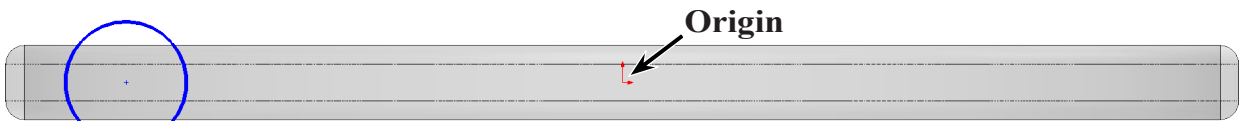

Fig. 4
- Step 2. Click **Circle**  (S) on the Sketch toolbar.
- Step 3. Sketch circle out to left of the Origin , **Fig. 4**.